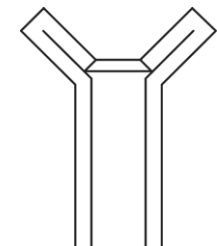

Fig 5
6. Wind the flaring tool cone into the pipe and slowly tighten to complete the double flare. See Fig 5